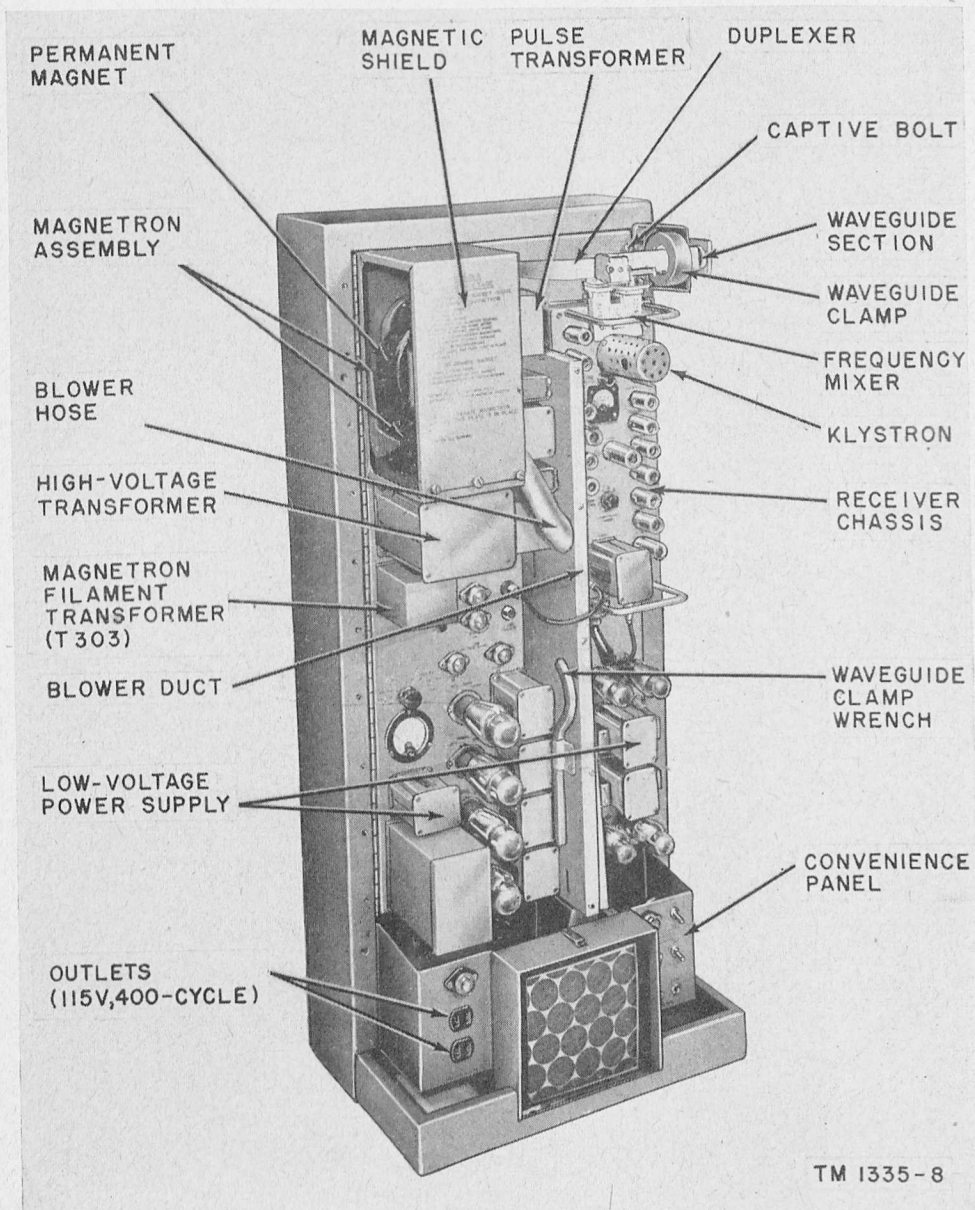

Figure 5. Receiver-transmitter, front cover removed.
a. Receiver-Transmitter Cabinet. This cabinet contains the transmitter, receiver, power supplies, duplexer, transmitter test panel, convenience panel, and ventilating system components (figs. 5 and 6). The receiver, transmitter, duplexer, and power supply components are mounted on the front and back of a hinged panel. A convenience panel, a-c (alternating-current) outlets, and the air filter and blower motor are mounted on a subchassis just below the hinged panel, and terminal boards are mounted on the lower section of the back cover.
c. Radar Receiver R-480/SPN-11. The radar receiver chassis is mounted on the front of the hinged panel as shown in figure 5. Supply voltages
d. *Duplexer CU-311/SPN-11.* The duplexer (fig. 5) contains the T/R (transmit-receive) and the anti-T/R tubes. The keep-alive voltage supply and T/R tube V202 are mounted on the rear of the hinged door (figs. 6 and 7).
e. *Frequency Mixer Stage CV-239/SPN-11.* The frequency mixer stage includes the afc (automatic frequency control) and signal mixer crystals and the klystron oscillator (fig. 5). The unit is bolted to the duplexer and provides 30-mc (megacycle) input for the receiver i-f (intermediate-frequency) stages.